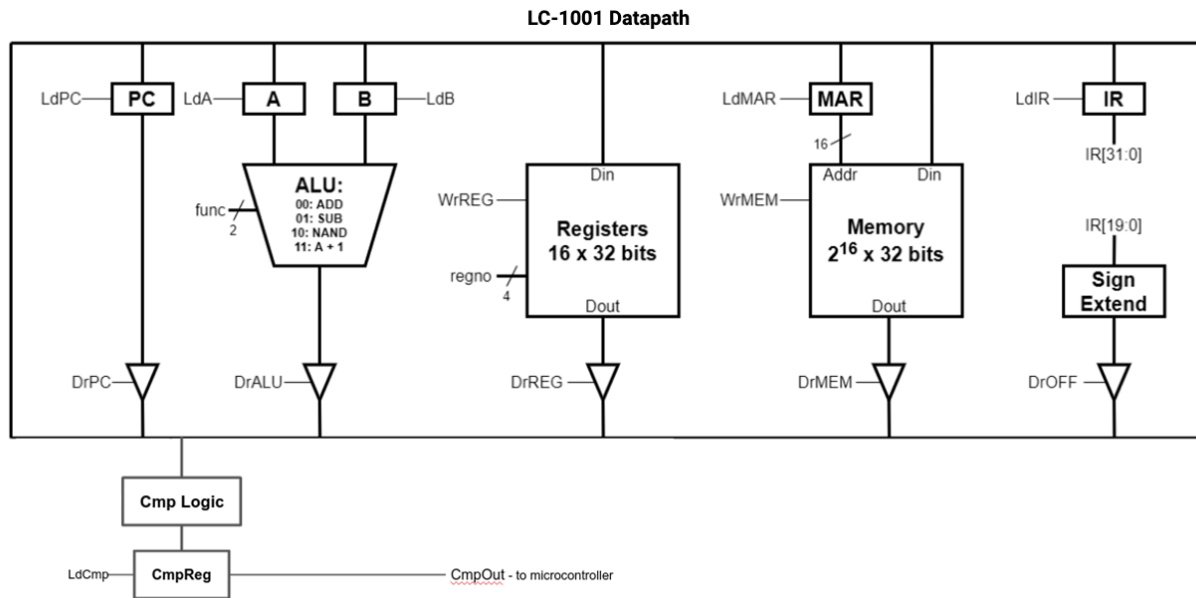

Figure 1: Datapath for the LC-1001 Processor
2. Using CircuitSim, implement the LC-1001 datapath. To do this, you will need to use the details of the LC-1001 datapath defined in Appendix A: LC-1001 Instruction Set Architecture. You should model your datapath on Figure 1.
The “comparison logic” box in Figure 1 is responsible for performing the comparison logic associated with the BLT, BGT, and BEQ instructions. The comparison logic should read the current value on the bus. When executing BLT, BGT, and BEQ, you should compute  $A - B$  using the ALU. While this result of the ALU is being driven on the bus, the comparison logic should read the result  $A - B$  and output a single “true” or “false” bit for either the condition  $A > B$ ,  $A < B$ , or  $A == B$  depending on the instruction being executed.
2. Implement the Microcontrol Unit using CircuitSim. The appendix contains all of the necessary information. Take note that the input and output signals on the schematics directly match the signals marked in the LC-1001 datapath schematic (see Figure 1).
3. Connect the completed control unit to the datapath you implemented in Phase 1. Using Figures 1 and 2, connect the control signals to their appropriate spots.